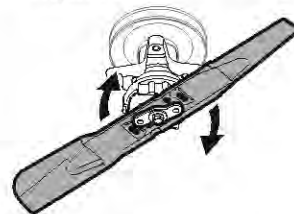

Figure 50
5. Rotate the blade clockwise to align with the blade adapter. See Figure 50.